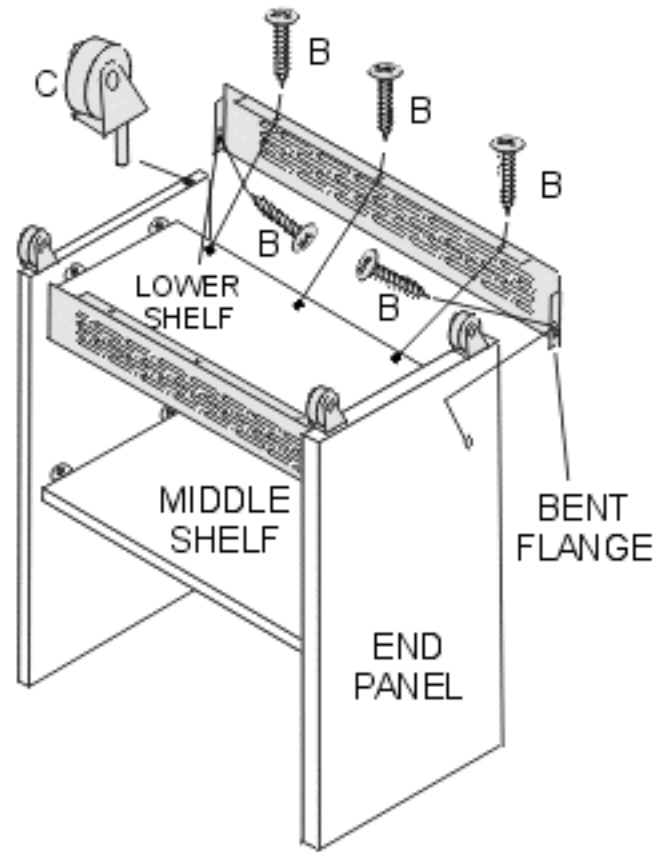

FIG. 4
Using 2 people, Carefully flip unit over to rest on top edges of END PANELS. Align and attach (2) PERFORATED STEEL BASKET SIDES to LOWER SHELF using (6) #8 x 5/8" TRUSS HEAD SCREWS (B) as shown FIG.4.
Install (4) CASTERS (C) into CASTER SOCKETS, some force may be required to "click" into place. FIG.4